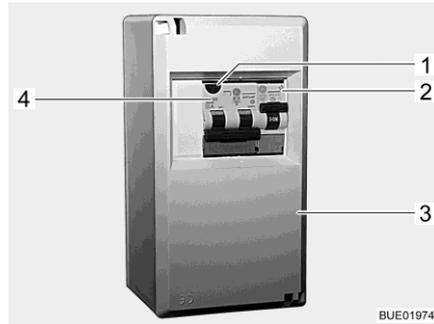

Fig. 194 230 V fuse box
A combined fault current protection switch / safety cut-out (Fig. 194,4) in the fuse box (Fig. 194,3) protects the complete vehicle from fault current (0.03 A).
For vehicles with special equipment (e.g. air conditioning unit) an additional safety cut-out (10 A) (Fig. 194,2) secures the device.
- When the vehicle is connected to the 230 V power supply, press the test button (Fig. 194,1). The fault current protection switch must trip.